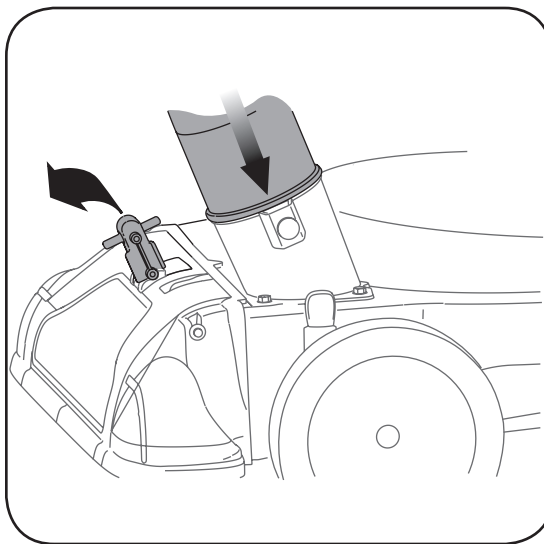

Figure 4-6
1. Place nozzle/hose vac handle in the bottom position on the nozzle to redirect vacuum to the hose assembly. See Figure 4-6.